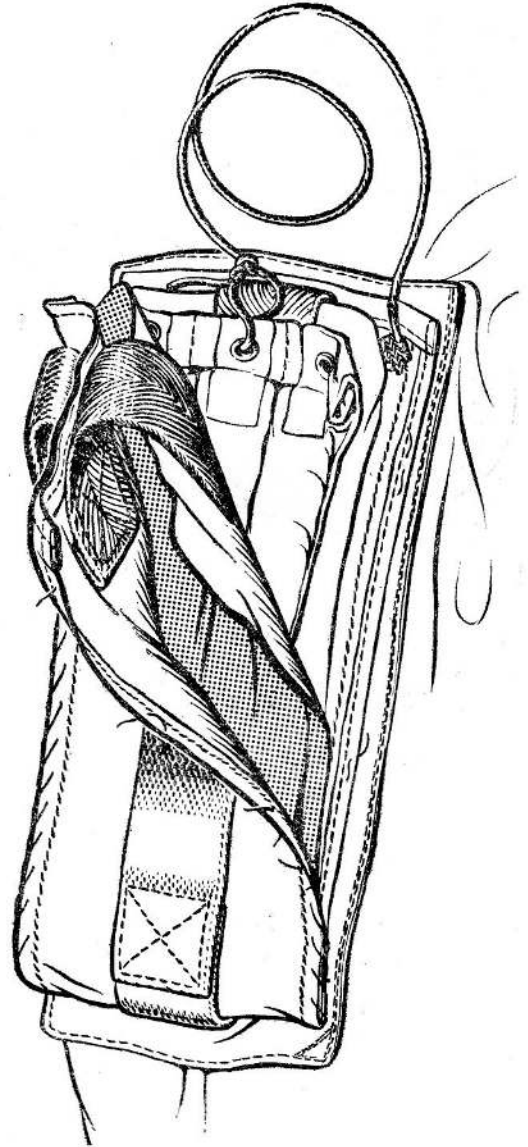

Fig. 5. Fluorescine sea marker
13. The fluorescine sea marker is supplied in a rubber pack, which is fitted inside a rip-off pocket on a flap on the right-hand side of the stole cover. Tapes at the top of the rubber pack are sewn to the pocket so that when the pocket is pulled open the pack is also pulled open and an inner pack containing the chemical is released (fig. 5.) The inner pack is attached to the life jacket by a cord.